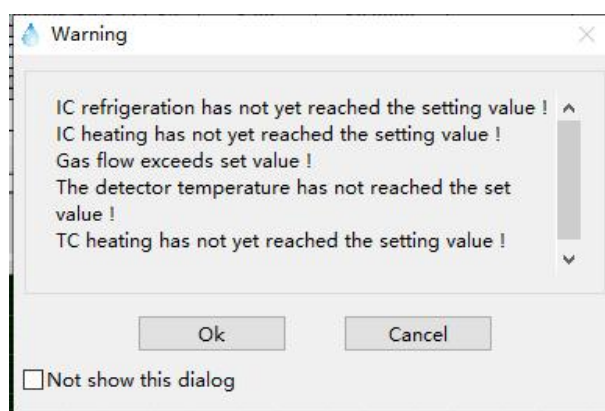

Fig 4.43
Step 6 Click  to start the measurement. The system will give a prompt (Fig. 4.43) if the current testing conditions do not meet the requirements. Click 'Cancel', wait the conditions to be stable, then click  and there is no warning prompt popped up again. The instrument starts the cleaning process, and user can view cleaning progress to check whether the cleaning is complete.